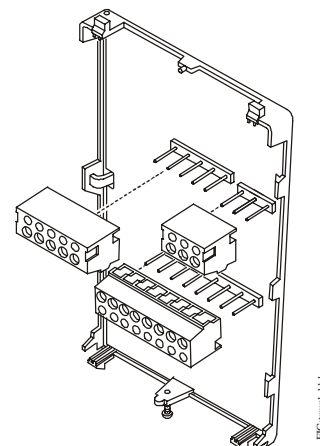

Figure 4: Removing the Screw Terminal Blocks
9. Remove the screw terminal blocks as illustrated in Figure 4.